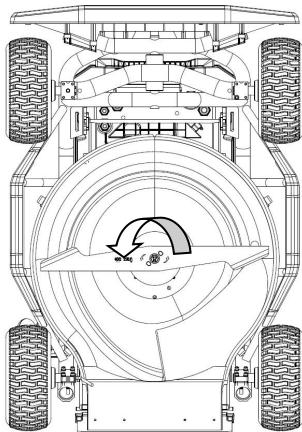

fig1
- ①.Turn off the power and remove the battery
- ②.Place the machine upright
- ③.Turn counterclockwise to remove the screws (fig1)